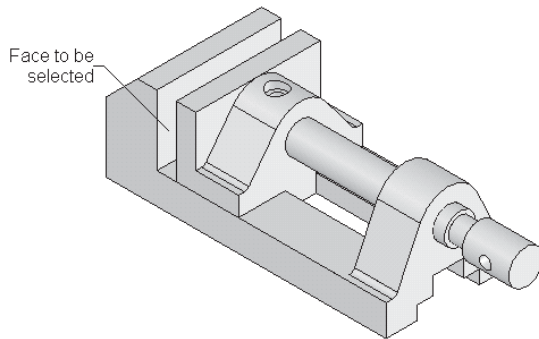

Figure 11-65 Face to be selected
- After analyzing the assembly, apply the required mates to constrain all degrees of freedom, refer to Figures 11-65 and 11-66.
12. Select the two faces, one of the Vice Body and the other of the Jaw Screw, as shown in Figures 11-65 and 11-66.